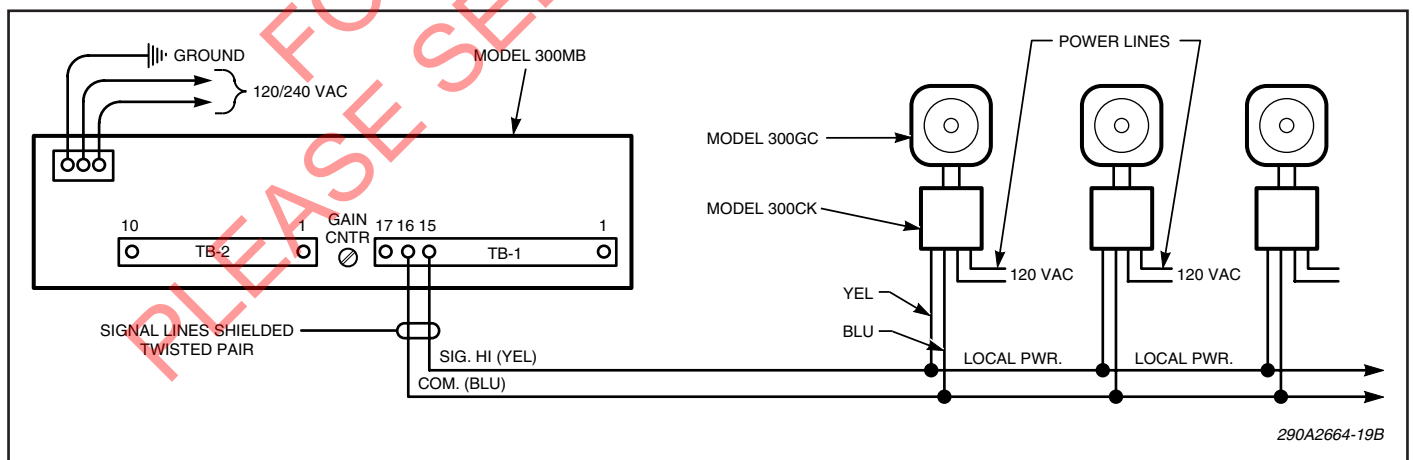

Figure 3-5. Typical Selectone Installation.
A. *SelecTone Installation (see figure 3-5).*